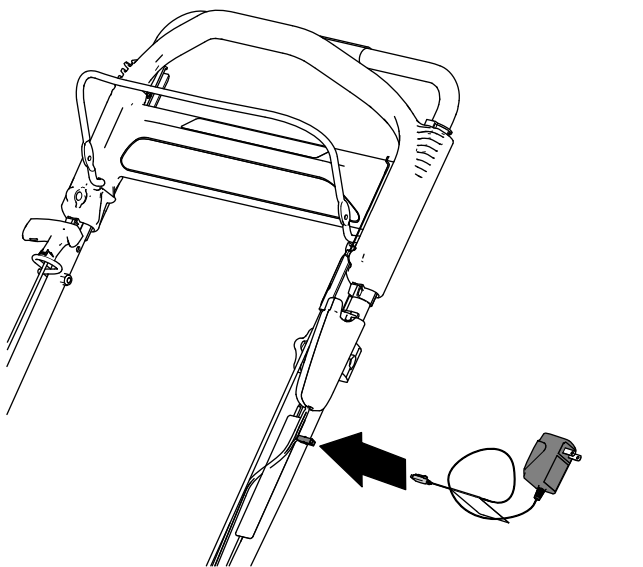

Figure 31
1. Connect the charger to the wire harness located below the electric-start button (Figure 31).